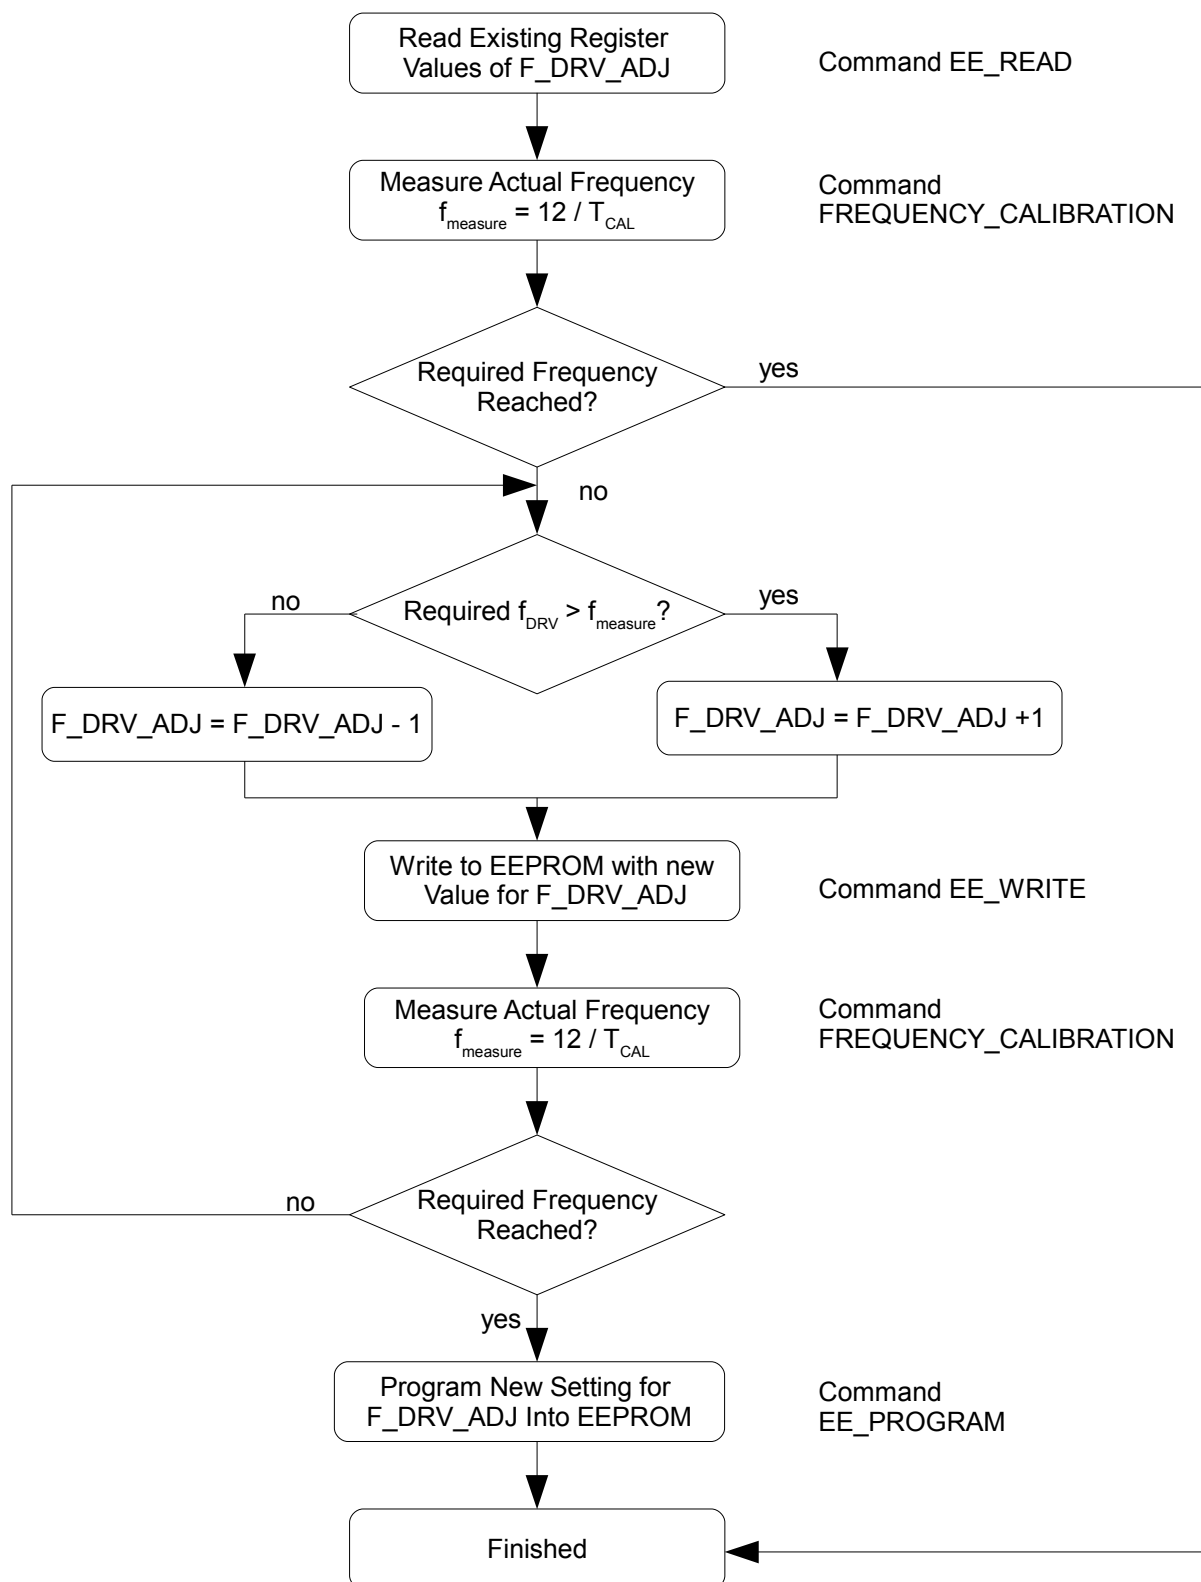

Figure 11. Frequency Adjustment Flowchart
4. Increase / decrease by one step n as shown in Figure 11. Alternatively, calculate the rough number n of steps corresponding to f_{DIFF} by $n = f_{\text{DIFF}} / 300\text{Hz}$.
A new value for f_{DRV} will also change the I/O interface timing characteristics. Figure 11 summarizes the frequency adjustment flow and the necessary commands.